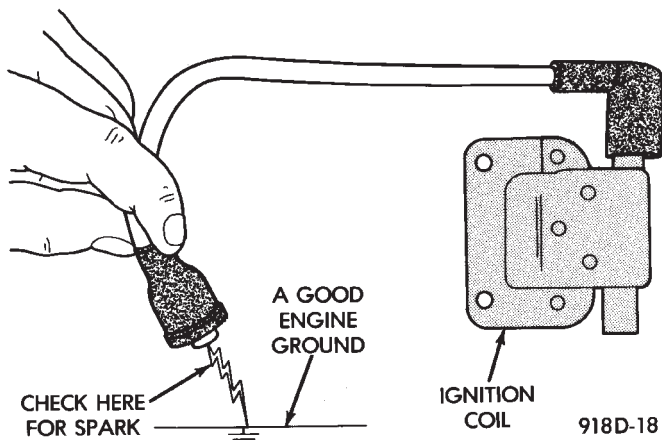

Fig. 7 Checking for Spark—Typical
(1) Disconnect the ignition coil secondary cable from center tower of the distributor cap. Hold the cable terminal approximately 12 mm (1/2 in.) from a good engine ground (Fig. 7).